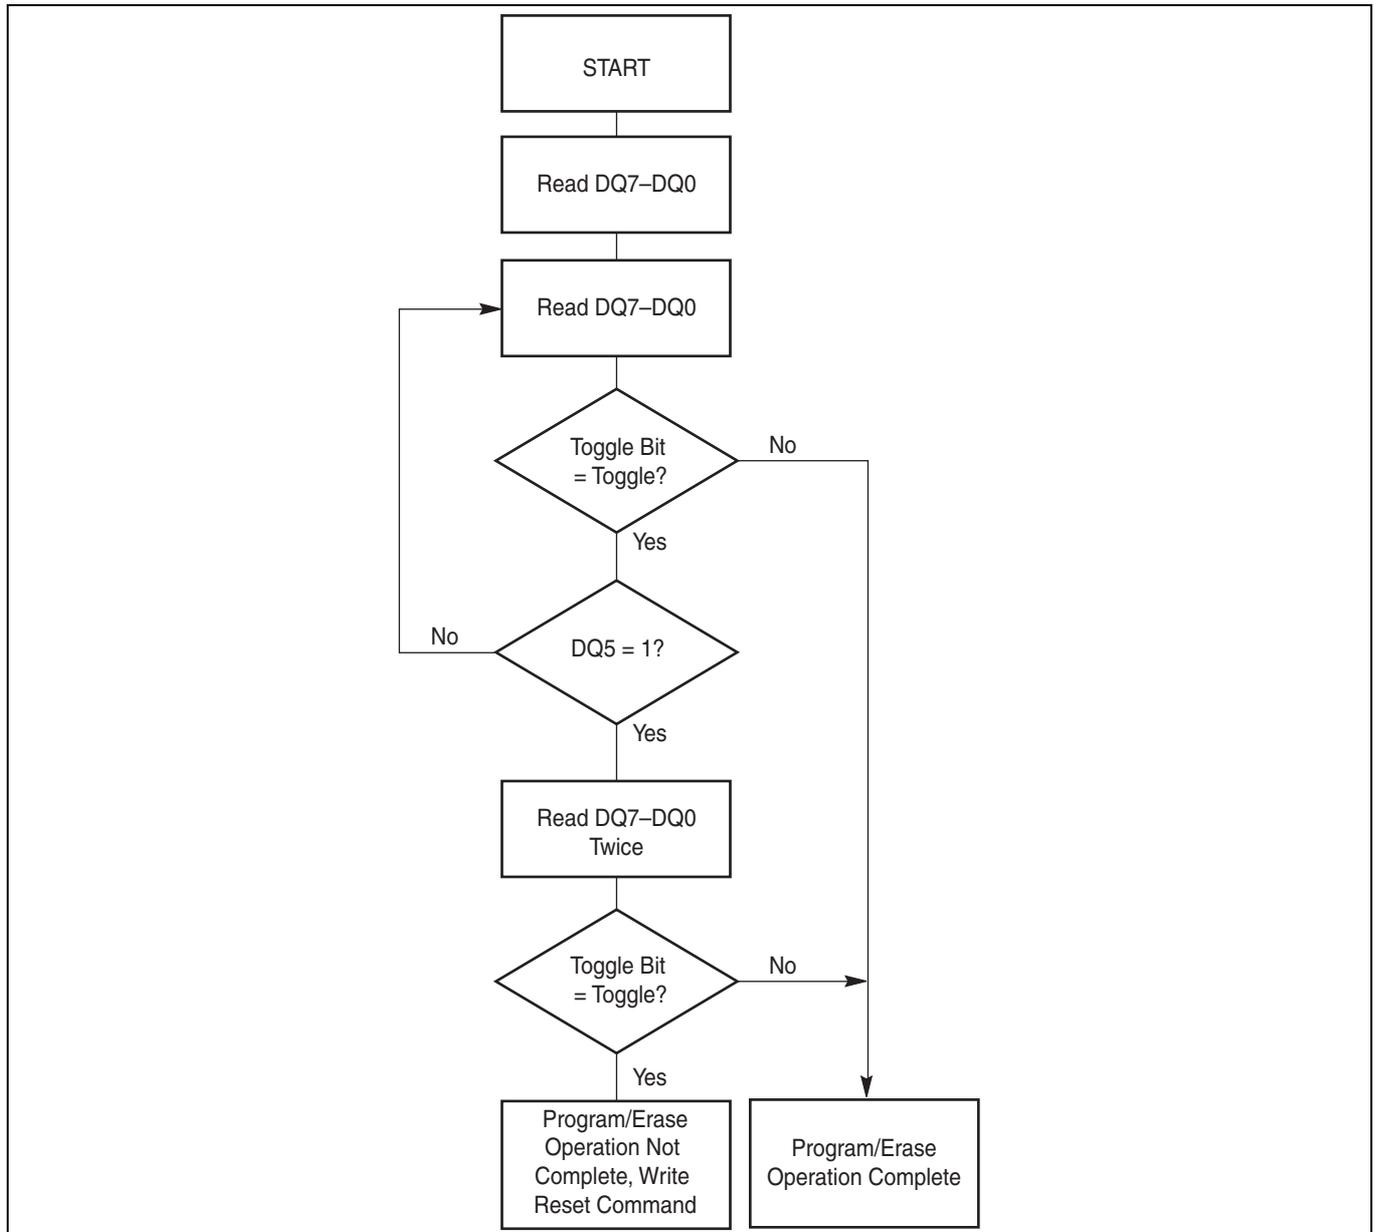

Figure 14 Toggle bit algorithm
**Table 30** shows the outputs for Toggle Bit I on DQ6. **Figure 14** shows the toggle bit algorithm. **Figure 37** shows the toggle bit timing diagrams. **Figure 38** shows the differences between DQ2 and DQ6 in graphical form. See also **“DQ2: Toggle Bit II”** on page 60.
Figure 14 shows the toggle bit algorithm in flowchart form. Figure 37 shows the toggle bit timing diagram. Figure 38 shows the differences between DQ2 and DQ6 in graphical form.
Refer to Figure 14 for the following discussion. Whenever the system initially begins reading toggle bit status, it must read DQ7–DQ0 at least twice in a row to determine whether a toggle bit is toggling. Typically, the system would note and store the value of the toggle bit after the first read. After the second read, the system would compare the new value of the toggle bit with the first. If the toggle bit is not toggling, the device completed the program or erase operation. The system can read array data on DQ7–DQ0 on the following read cycle.
The remaining scenario is that the system initially determines that the toggle bit is toggling and DQ5 has not gone high. The system may continue to monitor the toggle bit and DQ5 through successive read cycles, determining the status as described in the previous paragraph. Alternatively, it may choose to perform other system tasks. In this case, the system must start at the beginning of the algorithm when it returns to determine the status of the operation (top of Figure 14).